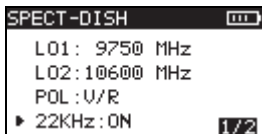

Figure 3
2. Press  to set LO、POL、22KHz, refer to figure 3.